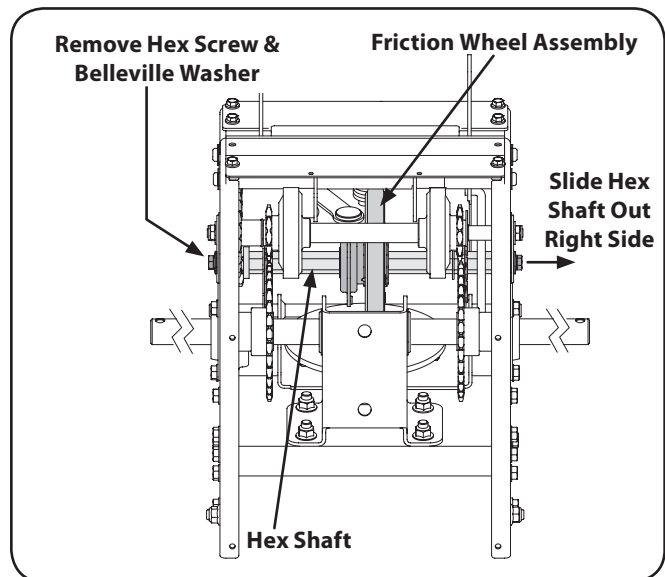

Figure 7-10
4. Using a 3/4" wrench, hold the hex shaft and remove the hex screw and belleville washer and bearing from left side of the frame. Refer to Figure 7-10.